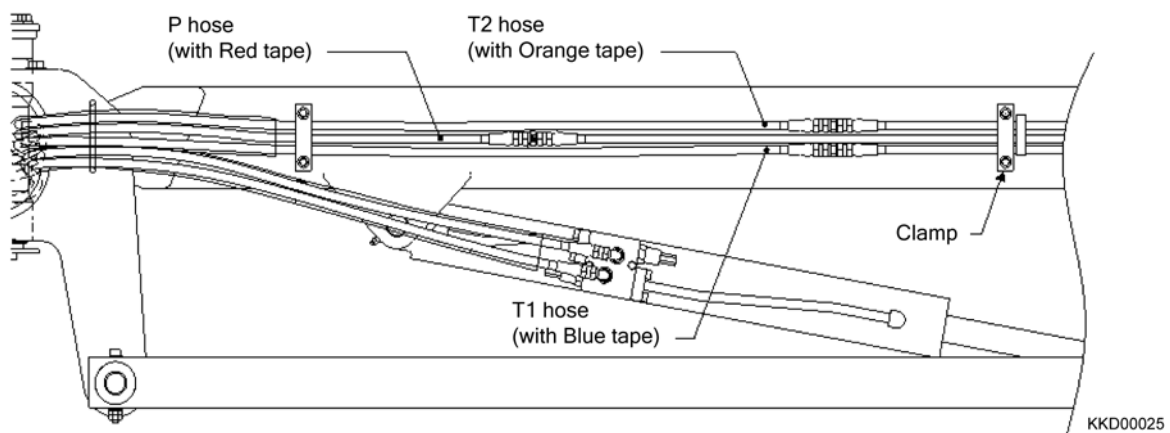

Fig. 2-50
- 6) Tag, Disconnect the T1 hose, P hose and T2 hose and then plug the fittings on the hose ends. (Fig. 2-50)